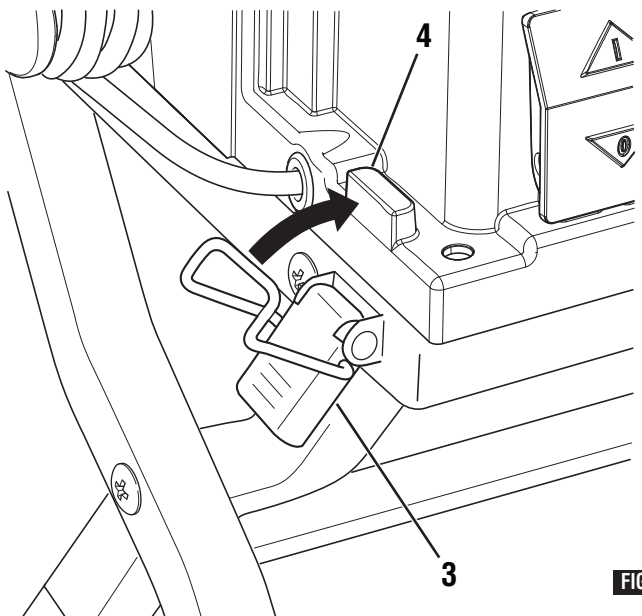

FIG. 7
2. Hook the wire from the clamp **3** located at the front of stand over the tab **4** on the saw base (Fig. 7).